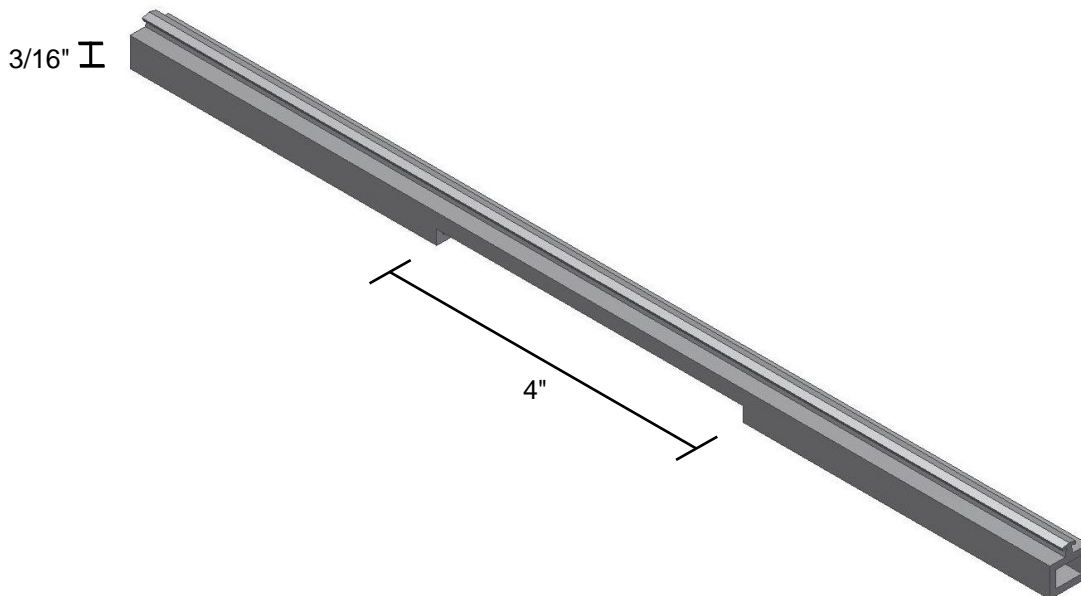

Figure 8: Notch the spacer to be placed on top of the horizontal mullion tongue to make room for the setting block.
- Notch the spacer to be placed on top of the horizontal mullion tongue to make room for the setting block, as shown in Figure 8.